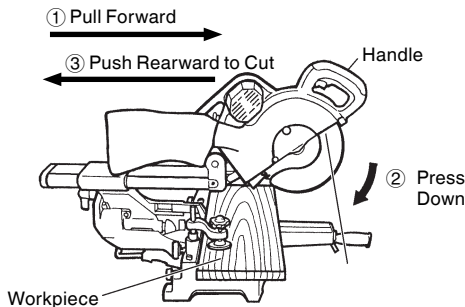

Fig. 28
Then press down on the handle and slide the saw blade back to cut the workpiece as indicated in Fig. 28. This facilitates cutting of workpieces of up to 3-11/32" (85mm) in height and 12-9/32" (312mm) in width.
- * For slide cutting, follow the procedures indicated above in Fig. 28. Forward slide cutting (toward the operator) is very dangerous because the saw blade could kick upward from the workpiece. Therefore, always slide the handle away from the operator.